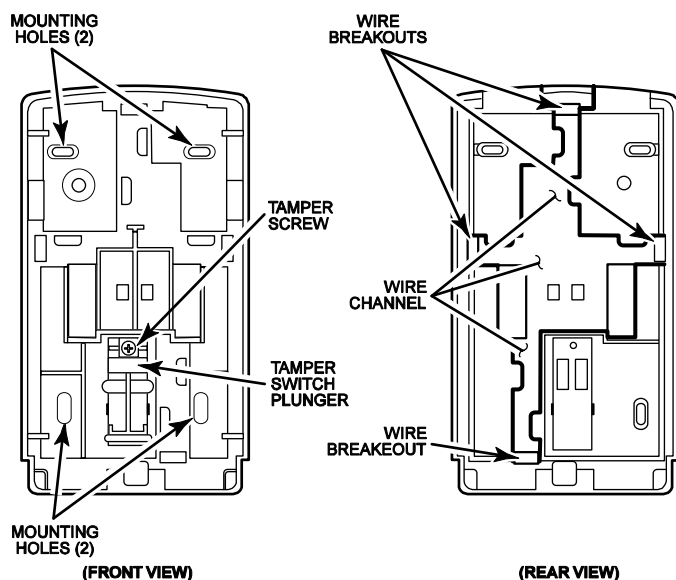

Figure 2 – Mounting the keypad
The keypads can be surface mounted directly to walls. A built-in tamper switch detects separation of the case-back from its mounting surface. To include tamper protection, a tamper screw must be inserted in the case-back, as shown in Figure 2.
2. If using the tamper switch place the case back on a flat surface and insert a screw through the tamper switch plunger in the case back, as shown in Figure 2. Tighten the tamper screw until the upper portion of the tab (near the tamper screw) contacts the case back.